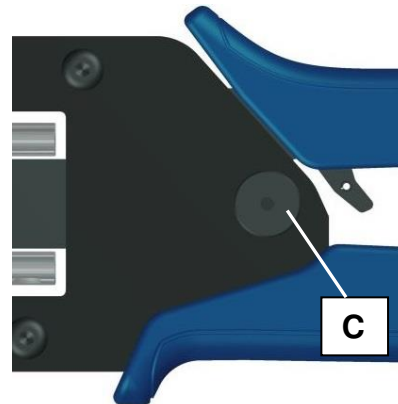

Fig.7.
1. Loosen knurled nut (C) by turning it counter clockwise (Fig.7.)
2. Press the nut until toothed adjustment wheel (B) is lifted so it can be rotated freely